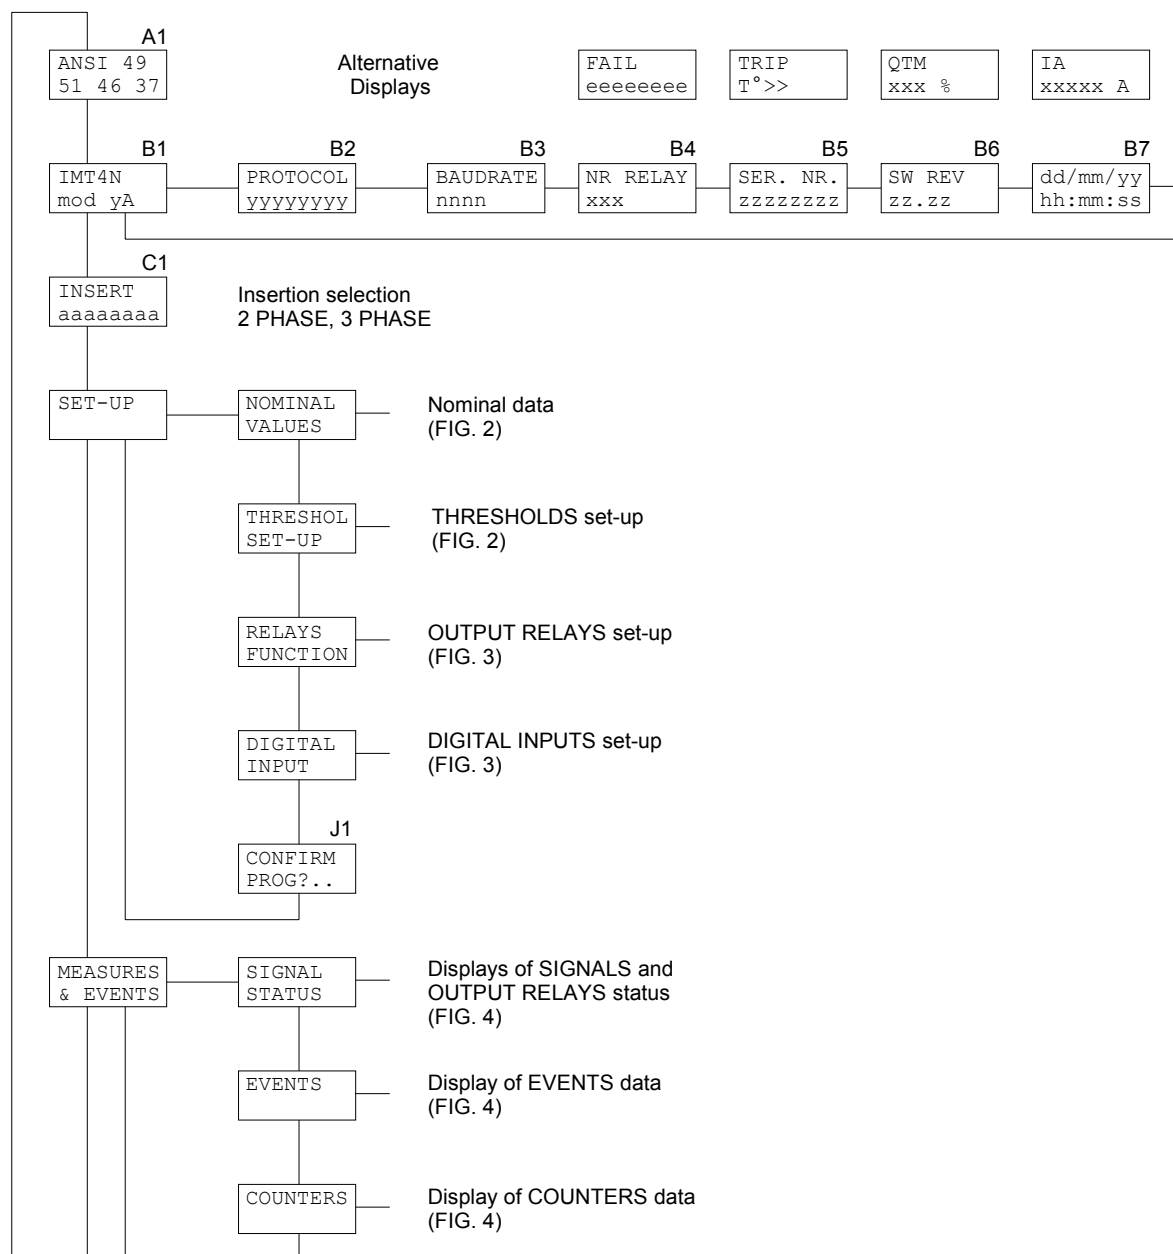

Figure 1
The programmable parameters are showed in Figures 1, 2, 3 and 4 at the following references:
- d) display on STANDARD MODE (Fig. 1, ref. A1 - par. 5.1)
The contents and the structure of the displayed messages are shown in figures 1, 2, 3 and 4; the references A1, B1, B2 etc. identify specific displayed messages in the figures.
5.3 Address and time (fig. 1)
5.4 Protection insertion (fig. 1)**C1 - INSERTION SELECTION (programmable)**